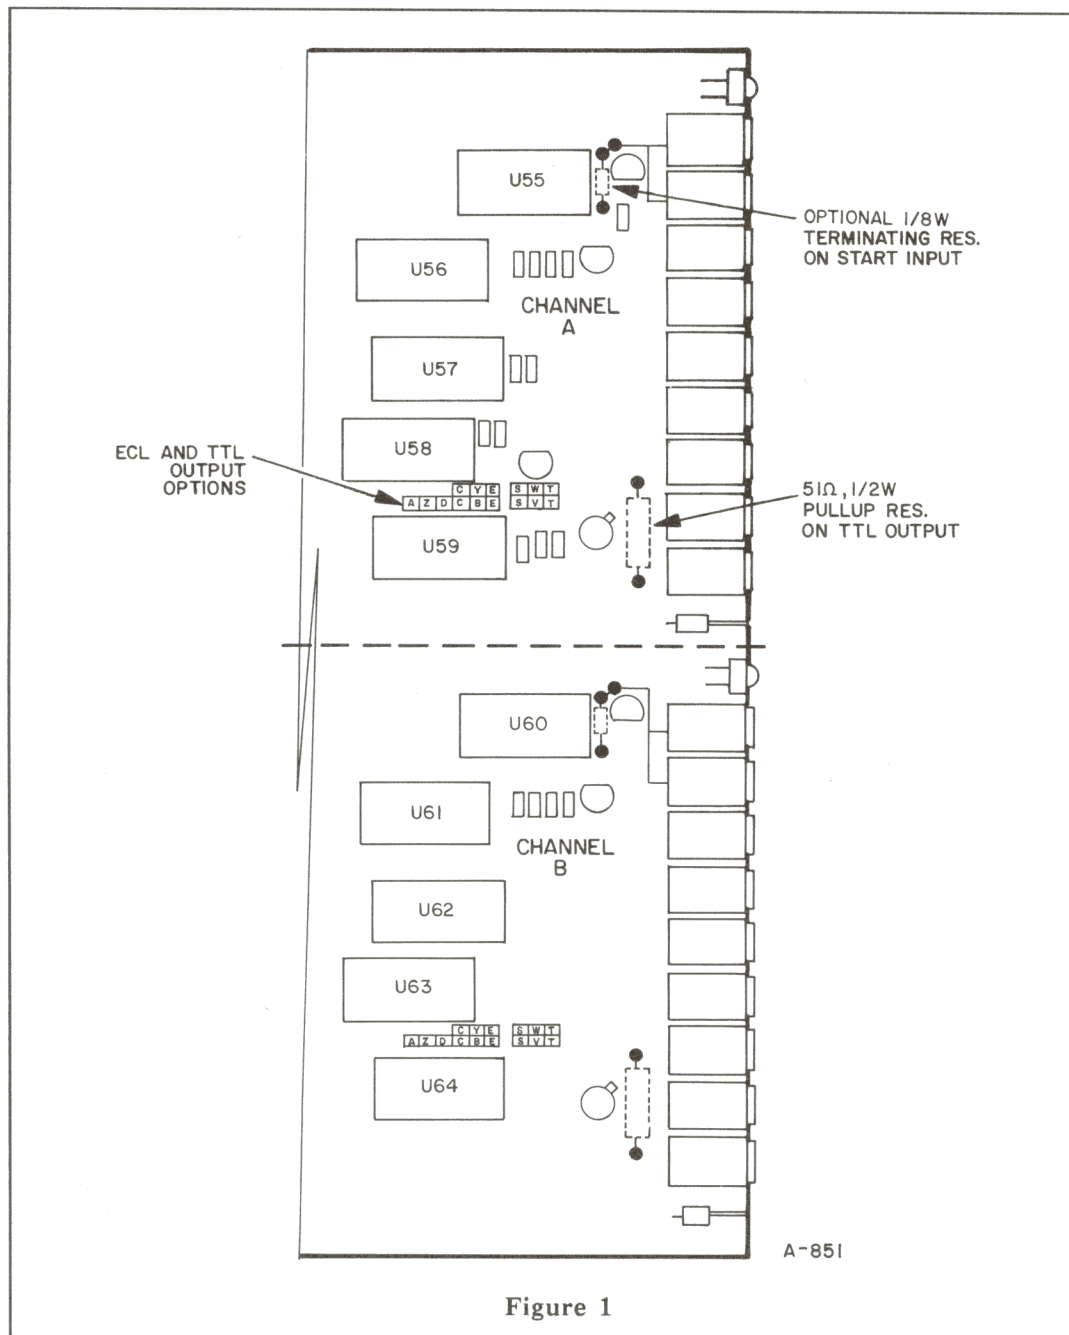

Figure 1
The following options are made available to the user (see Figure 1). They are located at the front-panel end of the main pc board. Note that there are two identical sections, each taking up half of the board space. Channel A(B) is located at the top (bottom).
* Connections made at factory (see Figure 1).